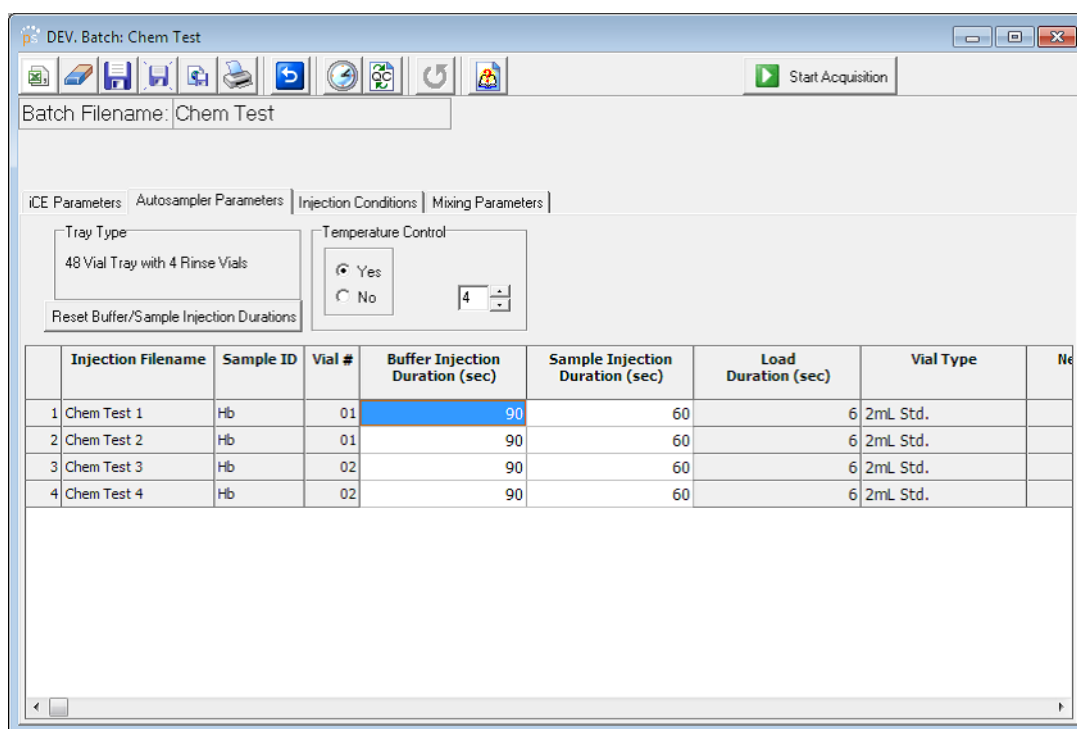

Figure 6-26: Example of a completed Autosampler parameters table using ProteinSimple default parameters.
21. When all the information has been entered, you can move on to the next tab. An example of a completed Autosampler Parameters table using the ProteinSimple default parameters is shown in Figure 6-26.